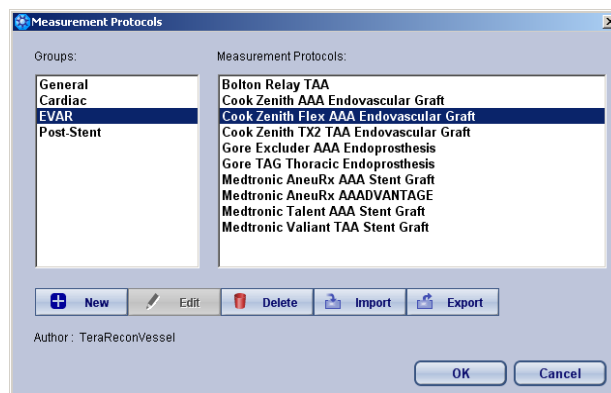

Figure 3-55: Measurement Protocols Dialog
2. The Measurement Protocols Dialog Box is displayed (see Figure 3-55).